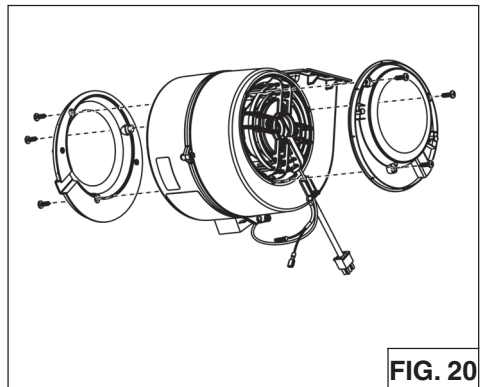

FIG. 20
2. Using no.6 x 1/2" screws, install one filter support on each side (provided) of the internal blower (Fig.20).